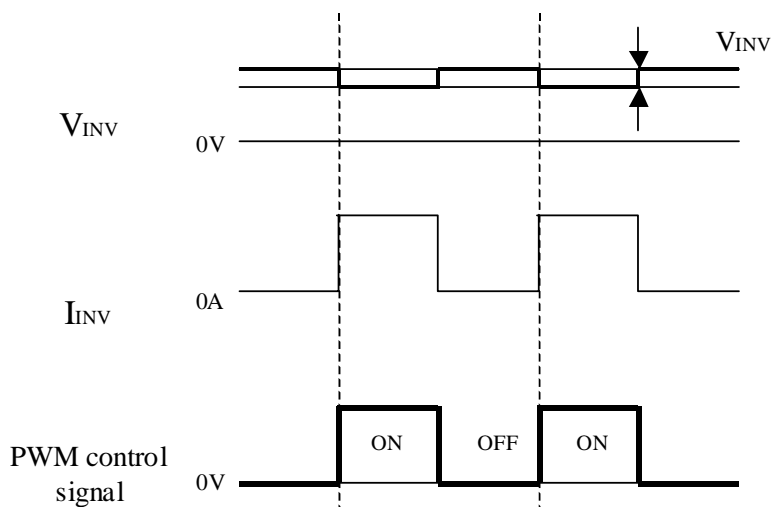

Fig.4 Brightness control voltage.
- Brightness control voltage is switched for “ON” and “OFF”, as shown in Fig.4. Voltage difference generated by this switching,  $V_{INV}$ , may affect a sound output, etc. when the power supply is shared between the inverter and its surrounding circuit. So, separate the power supply of the inverter circuit with the one of its surrounding circuit.